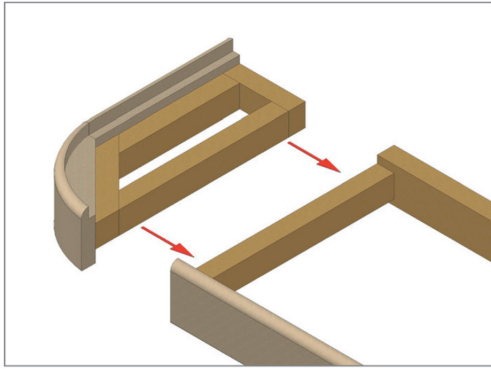

Figure 1
1. If possible, assemble the frames of the sauna bench's end module and the following bench frames on a flat surface, e.g., a floor. At the same time, make sure that the modules' edge boards would fit together accurately. (Figure 1)